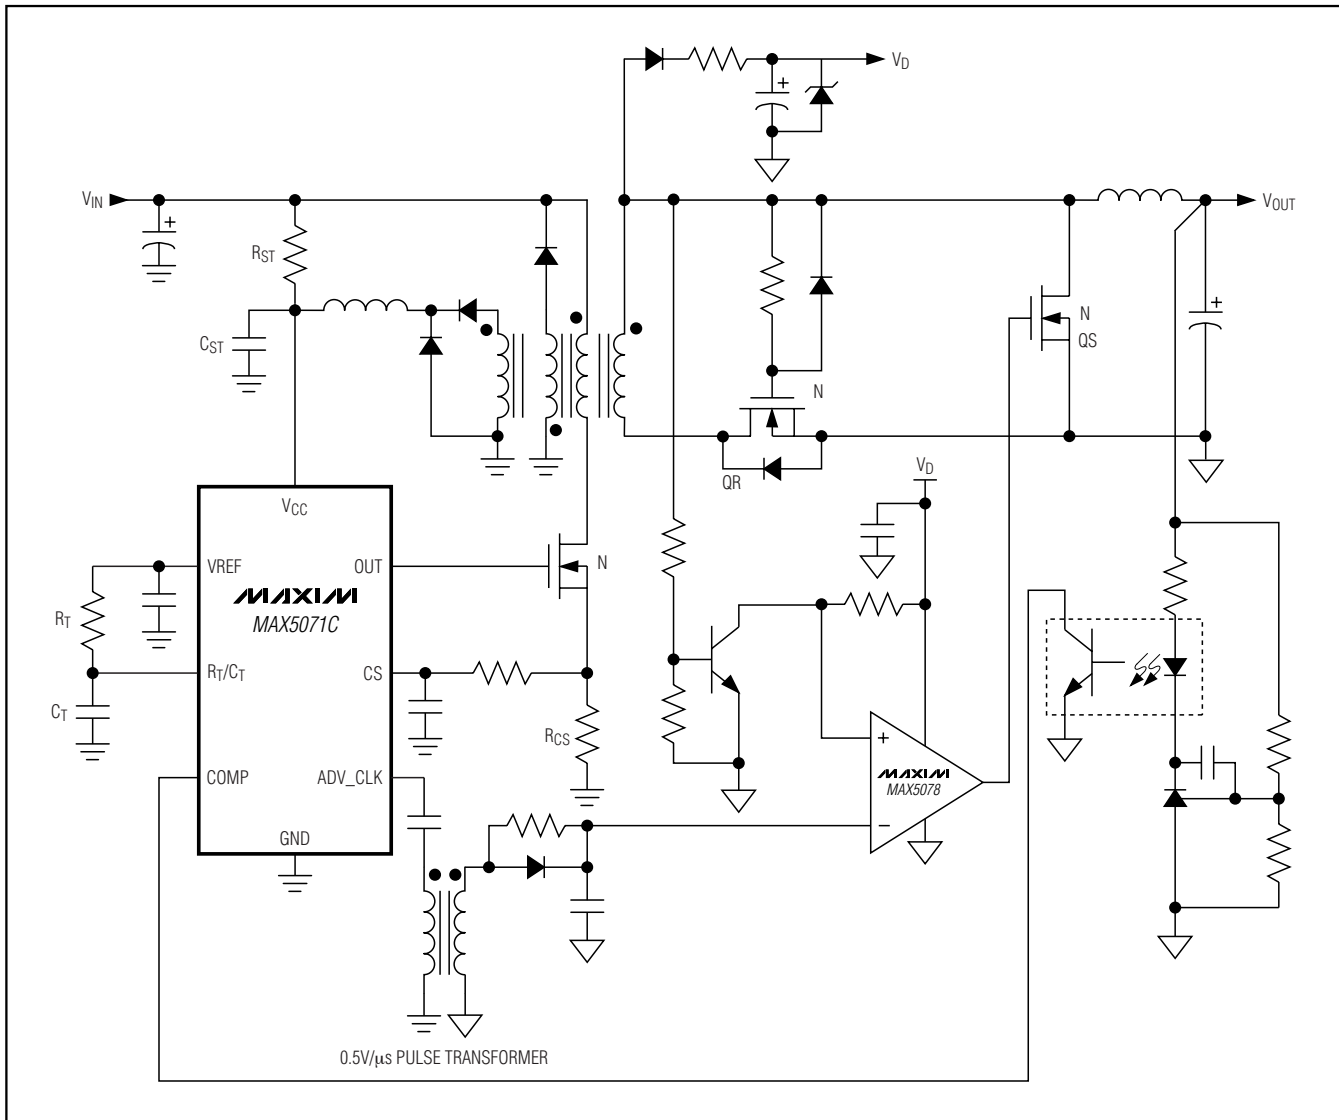

Figure 8. MAX5071C Typical Application Circuit (Isolated Forward with Secondary-Side Synchronous Rectification)
ADV_CLK is an advanced pulse output provided to facilitate the easy implementation of secondary-side synchronous rectification using the MAX5071C. The ADV_CLK pulse width is 85ns (typically) with its rising edge leading the rising edge of OUT by 110ns. Use this leading pulse to turn off the secondary-side synchronous-rectifier MOSFET (QS) before the voltage appears on the secondary (see Figure 8). Turning off the secondary-side synchronous MOSFET earlier avoids the shorting of the secondary in the forward converter. The ADV_CLK pulse can be propagated to the secondary side using a pulse transformer or high-speed optocoupler. The 85ns pulse, with 3V drive voltage (10mA source), significantly reduces the volt-second requirement of the pulse transformer and the advanced pulse alleviates the need for a high-speed optocoupler.